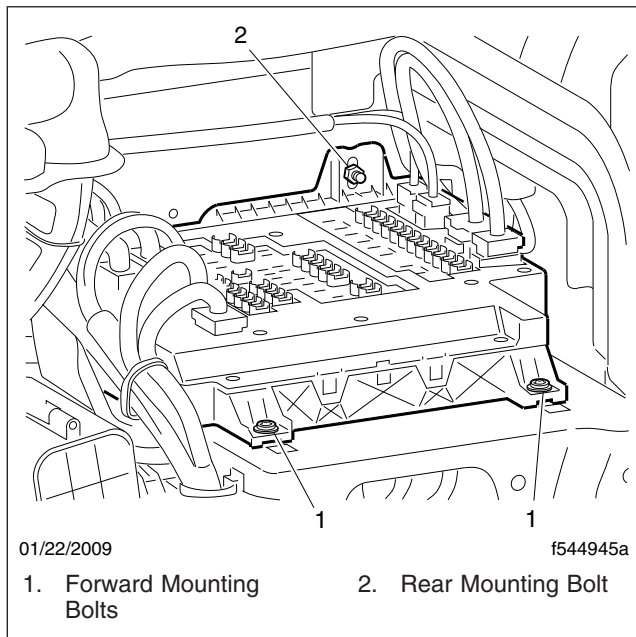

Fig. 1, SAM Cab Mounting Bolts
9. Remove the three fasteners that secure the SAM Cab to the mounting plate. See Fig. 1.